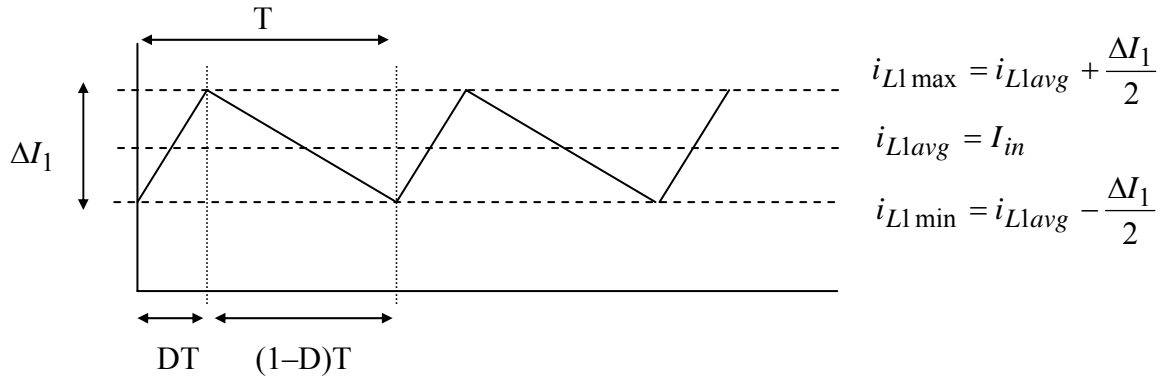

Figure 4. Inductor L_1 Current Waveform for Continuous Conduction
The graph of i_{L1} is shown in Figure 4. For PV applications, it is obviously desirable to have low ripple in i_{L1} to keep the solar panel operating at the peak of its maximum power curve.
From Figure 4 and Equation (3), when the switch is open (i.e., L_1 is “discharging”),